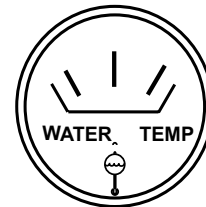

Figure 43. Coolant Temperature Gauge
13. The coolant temperature gauge (Figure 43) will indicate the coolant temperature. Under normal operating conditions the coolant temperature should be between 165 and 215 degrees Fahrenheit (Green Zone).